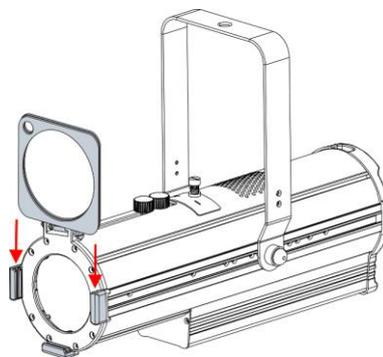

Fig. 09
- 03) Insert the color frame into the **color frame holders (09)** (see Fig. 09).